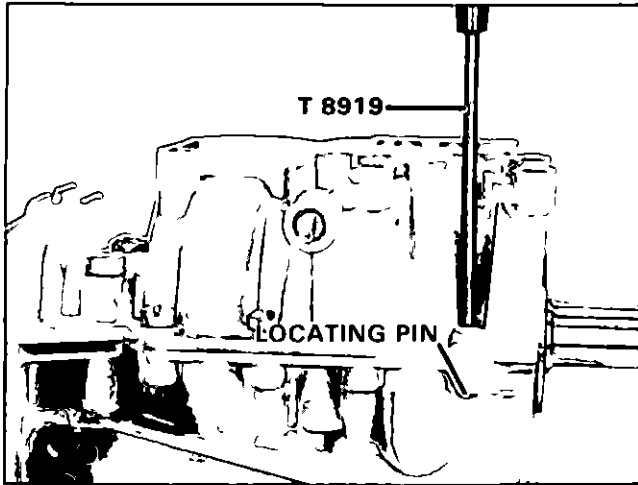

Figure 18. Removing Locating Pins.
B Drive out two (2) locating pins Special Tool No T 8919 Figure 18